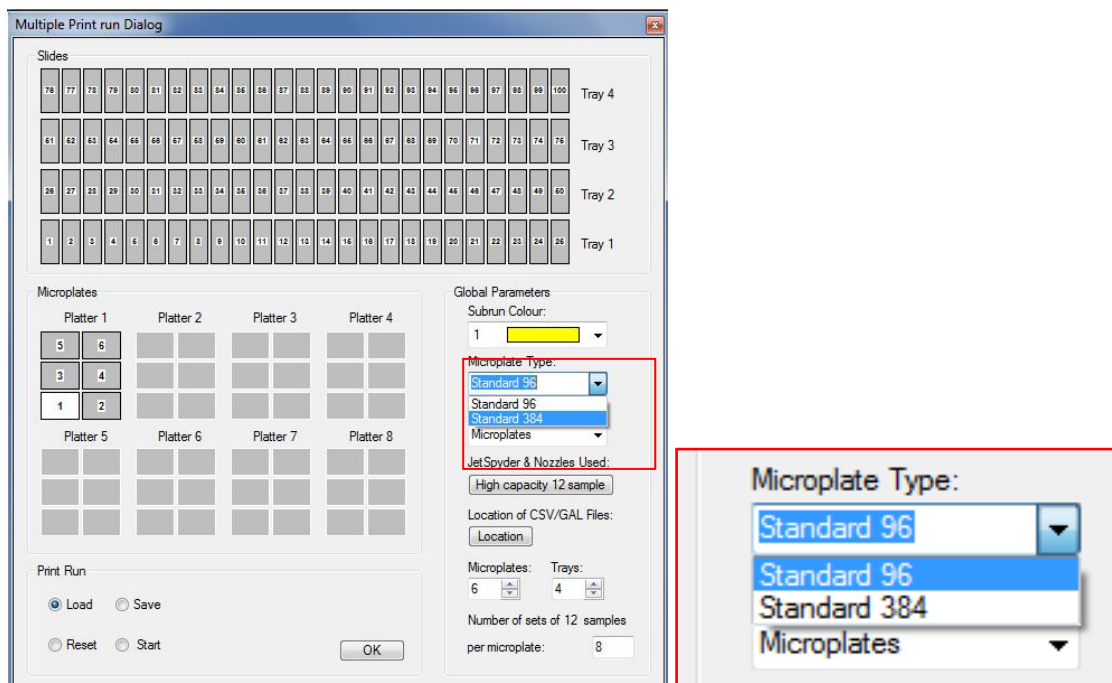

Figure 6-13 Selecting Microplate Type
- **Choose between a 96-well or 384-well microplate type** as shown in **Figure 6-13**